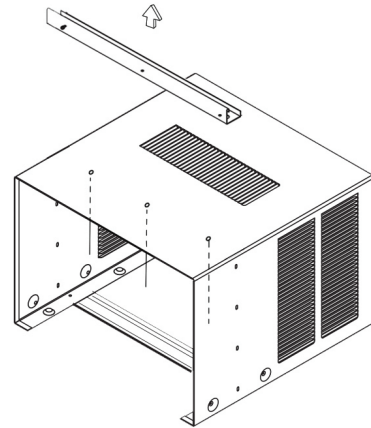

Figure C.5.2
STEP 2. Remove shell channel from top of the sleeve (Figure C.5.2).